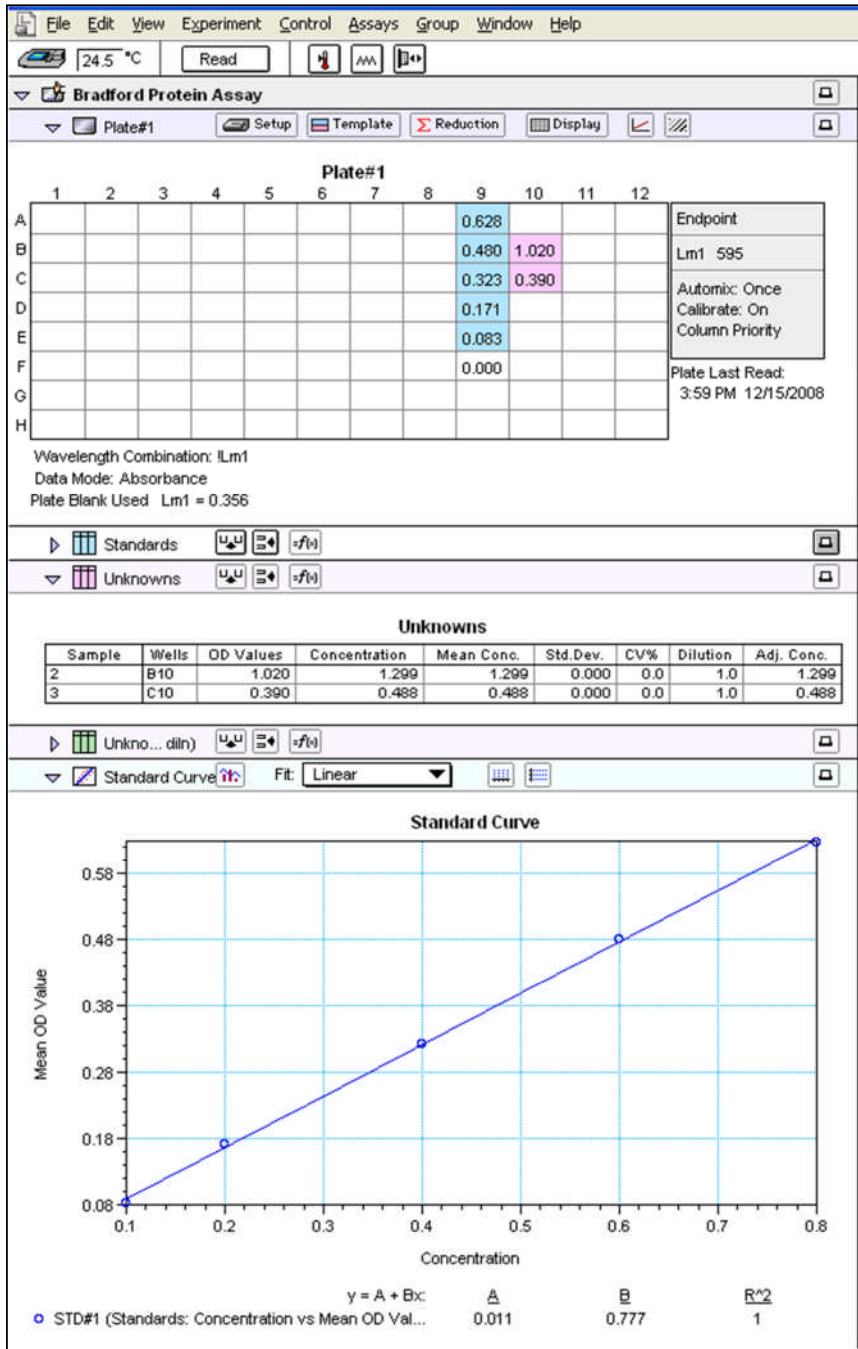

Figure 7. Print out from a Bradford plate-based protein assay.
7) A typical Bradford plate assay result from a commercial plate reader is illustrated in Figure 7.